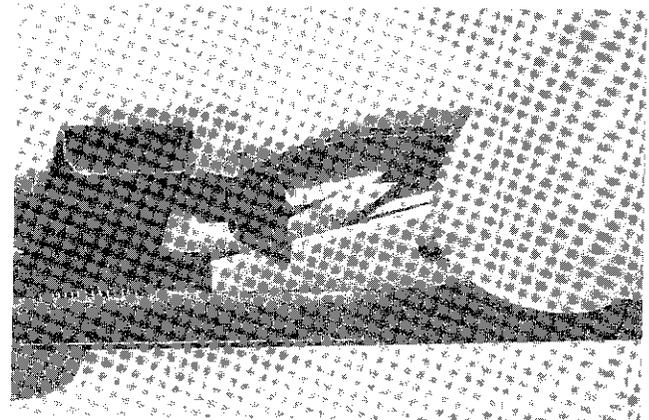
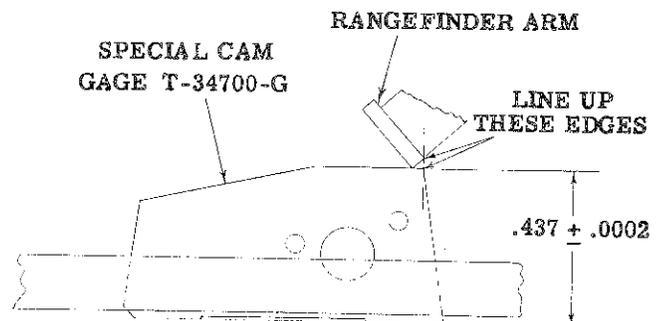

Figure 6: CAM INSERTING
Figure 7. MASTER CAM - PRE-INFINITY SETTING
b. Assemble the master cam gage in the cam slot (figure 6). The bed yoke must be back as far as possible. Assemble the yoke bracket and slide to a position that presses on the lower tube plunger to cause the master cam to line up with the edge of the rangefinder arm (figure 7).
e. Assemble the required lens cam (figure 6) and focus rangefinder at infinity and lock bed. Assemble rangefinder housing and secure with its mounting screws under normal tension. Check the image at infinity to be sure that it has not shifted due to assembly of the housing. Unlock the bed yoke and move forward to set the scales at the nearest marked distance. Check the rangefinder image at this distance measured from the film plane to the target.
h. Batteries are positioned in the rear rangefinder housing. Slip two penlite batteries into the openings, alternating top and bottom position. Replace the cover by slipping one end into the opening; press in the other end and move flush (figure 6). Lamp should light when red button on left is pressed.